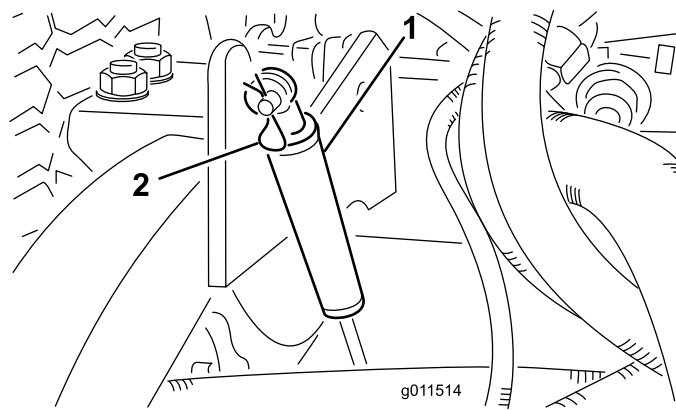

Figure 79
2. Remove the hairpin cotter securing the dampers to lift arms (Figure 79).